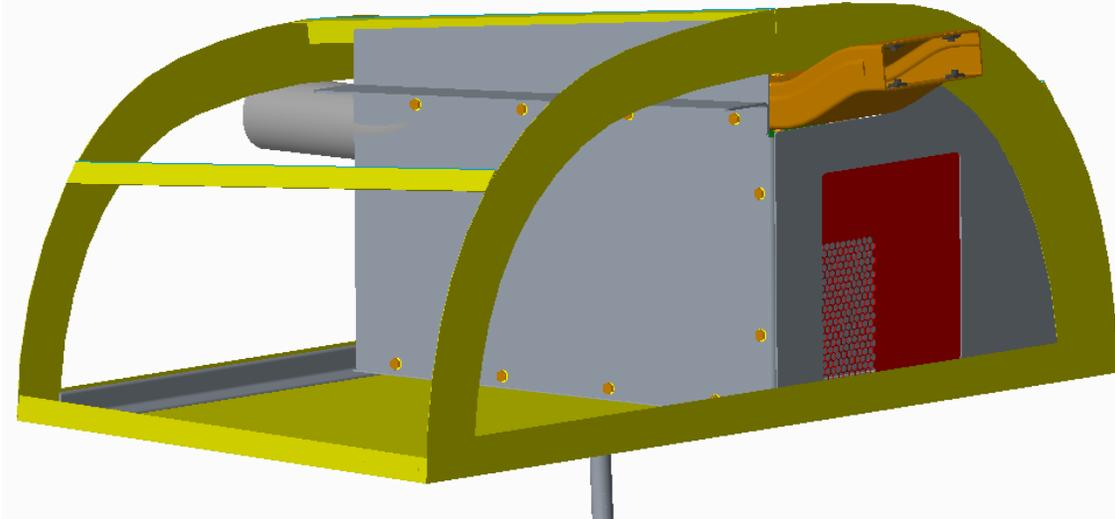

Figure 34 – Evaporator Closeout
12) Assemble the Evaporator Closeout per Note 9 and Assembly View 6. See Figure 34.